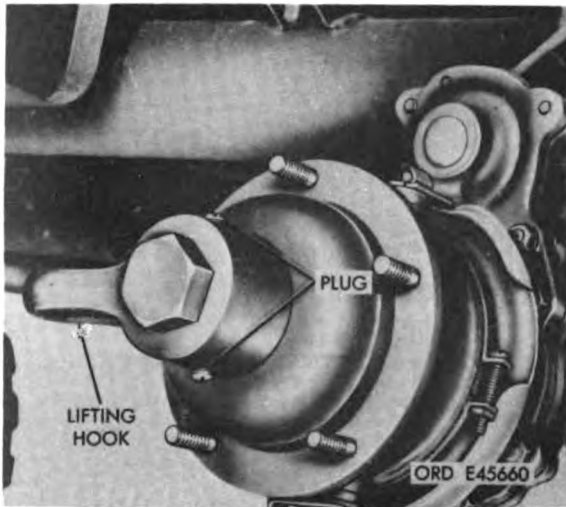

Figure 2-57. Location of pipe plugs on lifting hook.
- (2) Remove five locknuts and aluminum washers from studs, and remove wheel.
- (3) On M274A3 pry hubcap off hub (fig. 2-56) and remove cotter pin and slotted hex nut. On other models, remove two pipe plugs (fig. 2-57) from lifting hook.